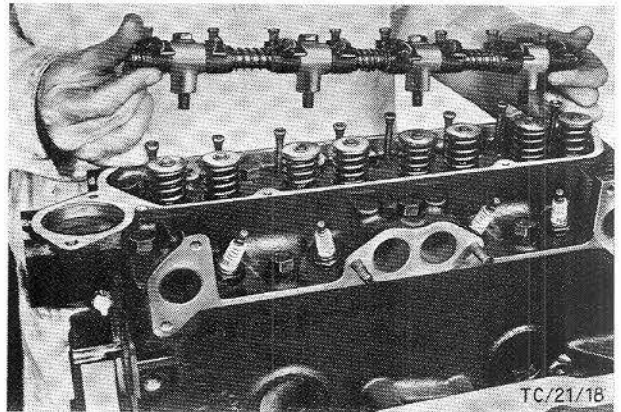

Fig. 88. Remove rocker shaft.
3. Remove spark plugs and take off rocker shaft (4 bolts), Fig. 88.